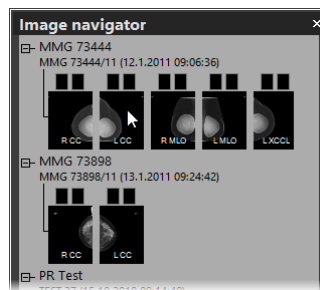

Figure 434 – Display image using the image navigator
2. Expand the selected mammography study and click the required image preview in the image navigator (see Figure 434).